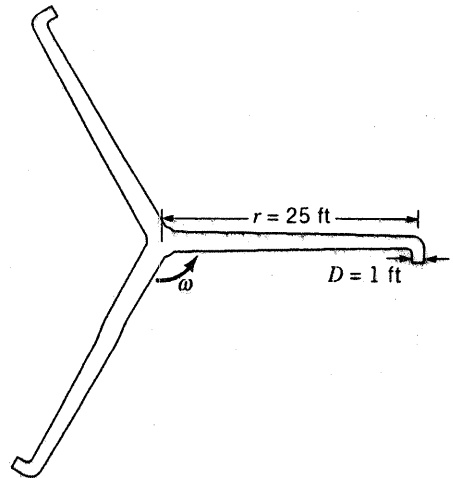

FIGURE P5.134
5.134 (See "Tailless helicopters," Section 5.2.4.) Exhaust gas from a tailless helicopter turbojet engine flows through the three 1-ft-diameter rotor blade nozzles shown in Fig. P5.134 at a rate of 500 ft³/s. Determine the angular velocity of the rotor if the torque on the rotor is negligible.